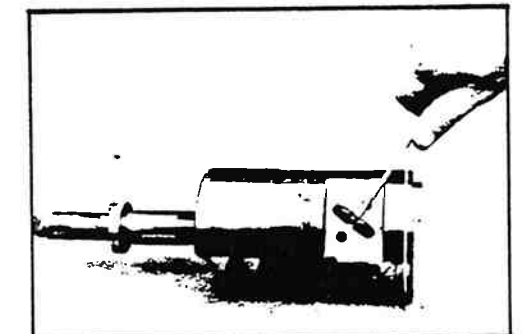
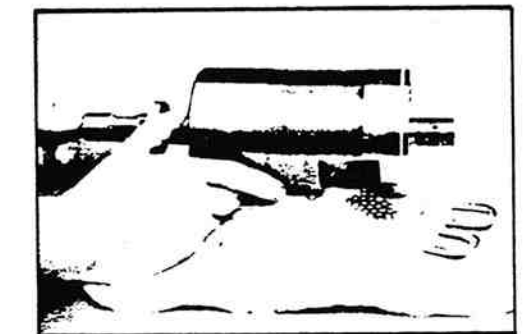

Figure 11-39. Loosening Ball Return Guides.
Figure 11-40. Removal of Balls.
37. Remove the two ball return guides (4c or 4g) (figure 11-39) and the balls (18) from the rack piston (10) by rotating the worm shaft (5a) until the balls fall out (figure 11-40).